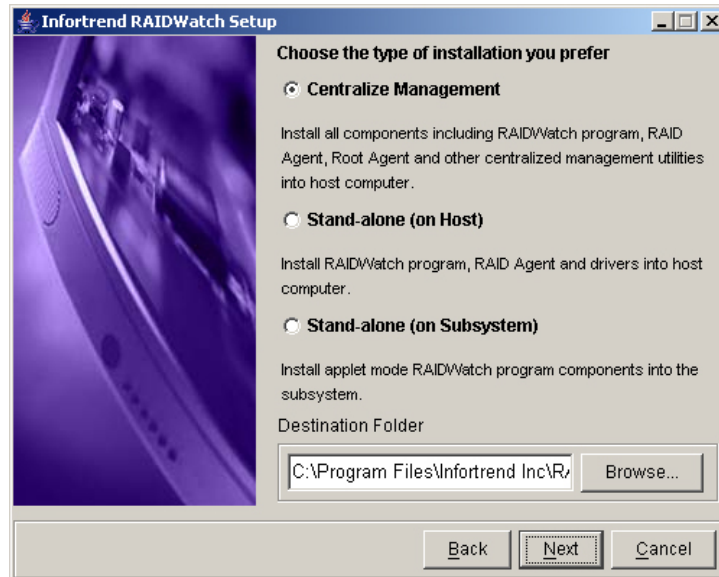

Figure 1-3: Installation Options
RAIDWatch supports local or remote management of Infortrend EonStor subsystems over a LAN/WAN or the Internet using the TCP/IP protocol. RAIDWatch can be highly flexible to access to a RAID subsystem. When “Advanced” installation is chosen during the installation process, three (3) installation schemes are available for you to select using the install shield program. (See *Figure 1-3*) Below sections are the explanations of the three options.